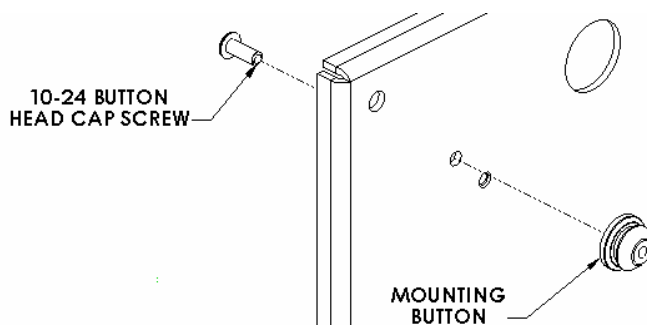

Figure 2
1. Using #10-24 screws secure mounting button to bracket, with chamfered hole of mounting button (larger surface) facing bracket (4 places) (see Figure 2 and Figure 3).